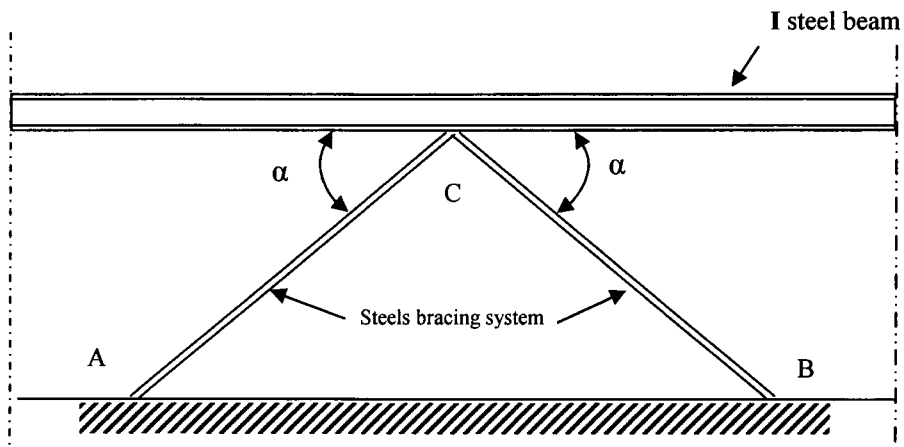

FIGURE Q6
- Q6** Figure Q6 shows a I steel beam with approximately 4 meters from the steel floor. Steel bracing systems installed in the middle of I-beam with α° of angle to avoid flexural buckling in I steel beam. Both ends of the steel bracing system that holds the I beam are welded. The other end is welded on to steel floor.